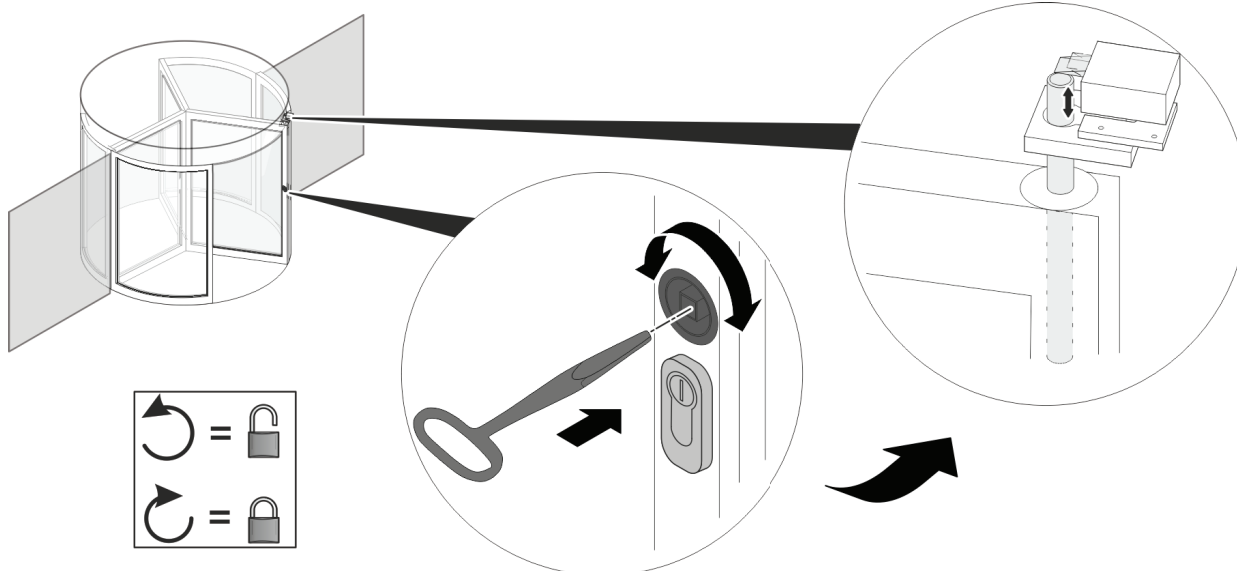

Fig. 5 Locking with a rod locking device
2. Unlock the operating mechanism of the rod lock with the key / lock (locking cylinder) (Fig. 5).
3. Lock the locking bar with the square key (Fig. 5).